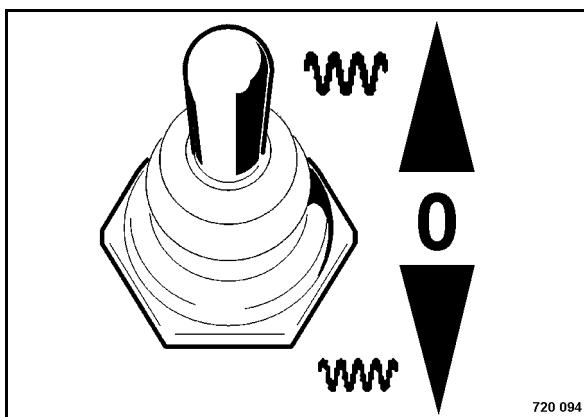

Fig. 61
- Set the vibration toggle switch (Fig. 61) to position "0".